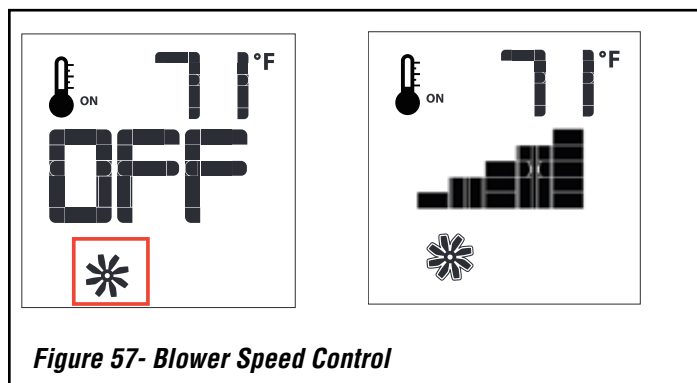

Figure 57- Blower Speed Control
The fireplace is equipped with optional hot air circulating blowers. The speed of the blowers can be controlled by the Proflame system. The blower speed can be adjusted through six (6) speeds. To activate this function use the Mode Key, see **Figures 46 and 47, Page 45**, to index to the blower control icon, see **Figure 57**. Use the Up/Down Arrow Keys to turn on, off, or adjust the blower speed. A single “beep” will confirm reception of the command.